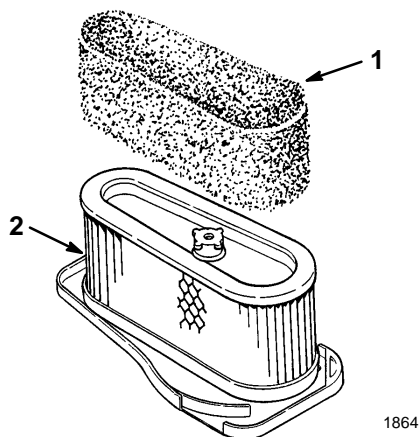

Figure 26
4. Carefully slide the foam element off the paper element (Fig. 26).
1. Carefully slide the foam element onto the paper air cleaner element (Fig. 26).